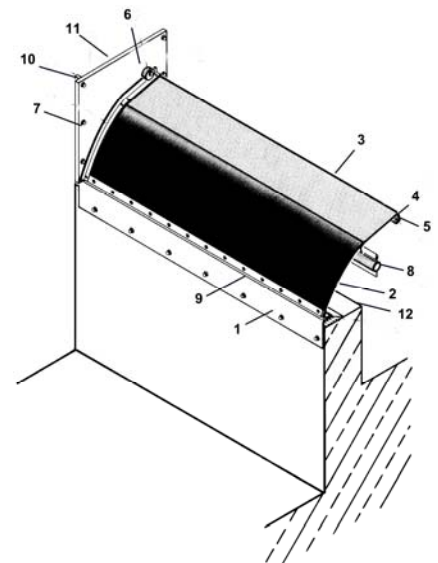

Figure 1: Sections of the Hydrovex® BW Bending Weir
The **HYDROVEX® BW** Bending Weir is made of twelve parts, see **Figure 1**. The girder (1) has a T-shaped cross section, is bolted horizontally onto the existing (or new) sill, such that the shorter side, which is bent in the direction of flow would protrude over the crest. The height of the sill is dependent on the bending weir type used and will be calculated for each task with the aid of a computer program.